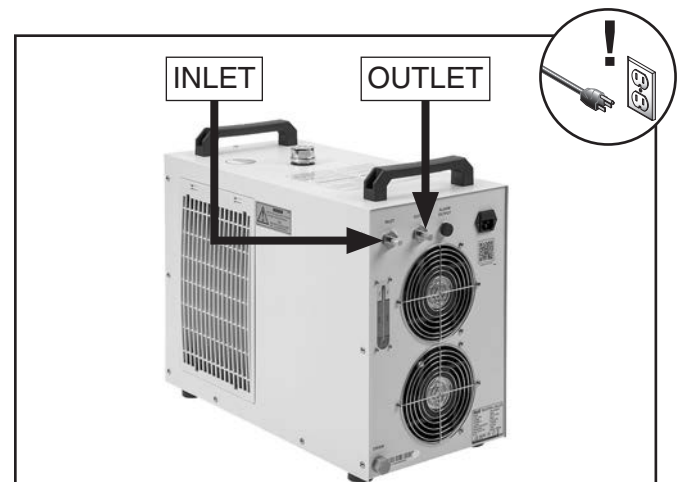

Figure 95. Location of water chiller ports.
3. Disconnect water hose(s) at INLET port(s) of water chiller, and place end(s) into bucket to collect water runoff (see **Figure 95**).